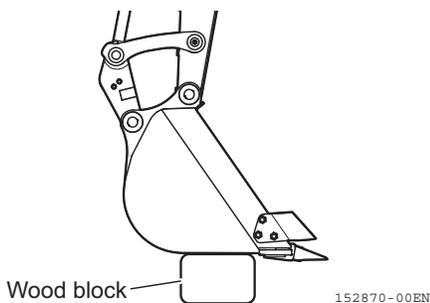

Fig. 8-32
1. Place wood blocks on a level ground and lower the bucket to the ground with its bottom kept level as shown in Fig. 8-32.